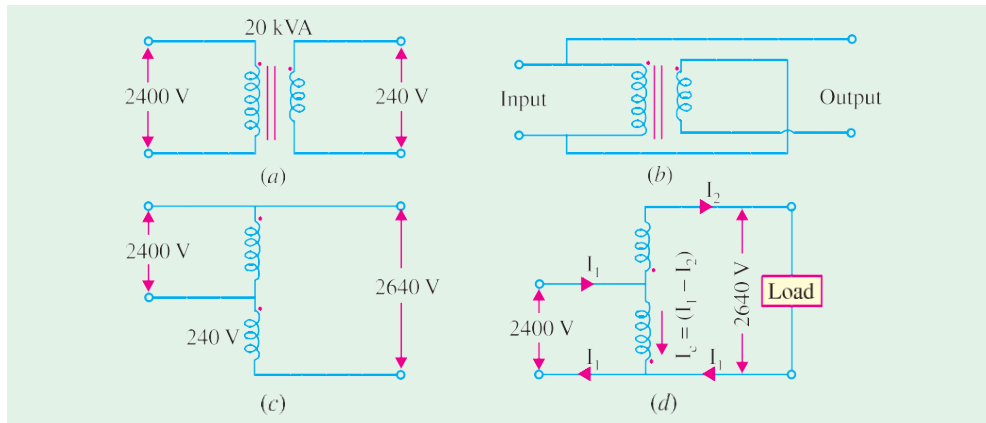

Fig. 32.62
Any two-winding transformer can be converted into an auto-transformer either step-down or step-up. Fig. 32.62 (a) shows such a transformer with its polarity markings. Suppose it is a 20-kVA,
Connections for such a polarity are shown in Fig. 32.62 (b). The circuit is re-drawn in Fig. 32.62 (c) showing common terminal of the transformer at the top whereas Fig. 32.62 (d) shows the same circuit with common terminal at the bottom. Because of additive polarity,  $V_2 = 2400 + 240 = 2640$  V and  $V_1$  is 2400 V. There is a marked increase in the kVA of the auto-transformer (Ex. 32.90). As shown in Fig. 32.62 (d), common current flows **towards** the common terminal. The transformer acts as a step-up transformer.
**Example 32.91.** Repeat Example 30.64 for subtractive polarity as shown in Fig. 32.62 (c).